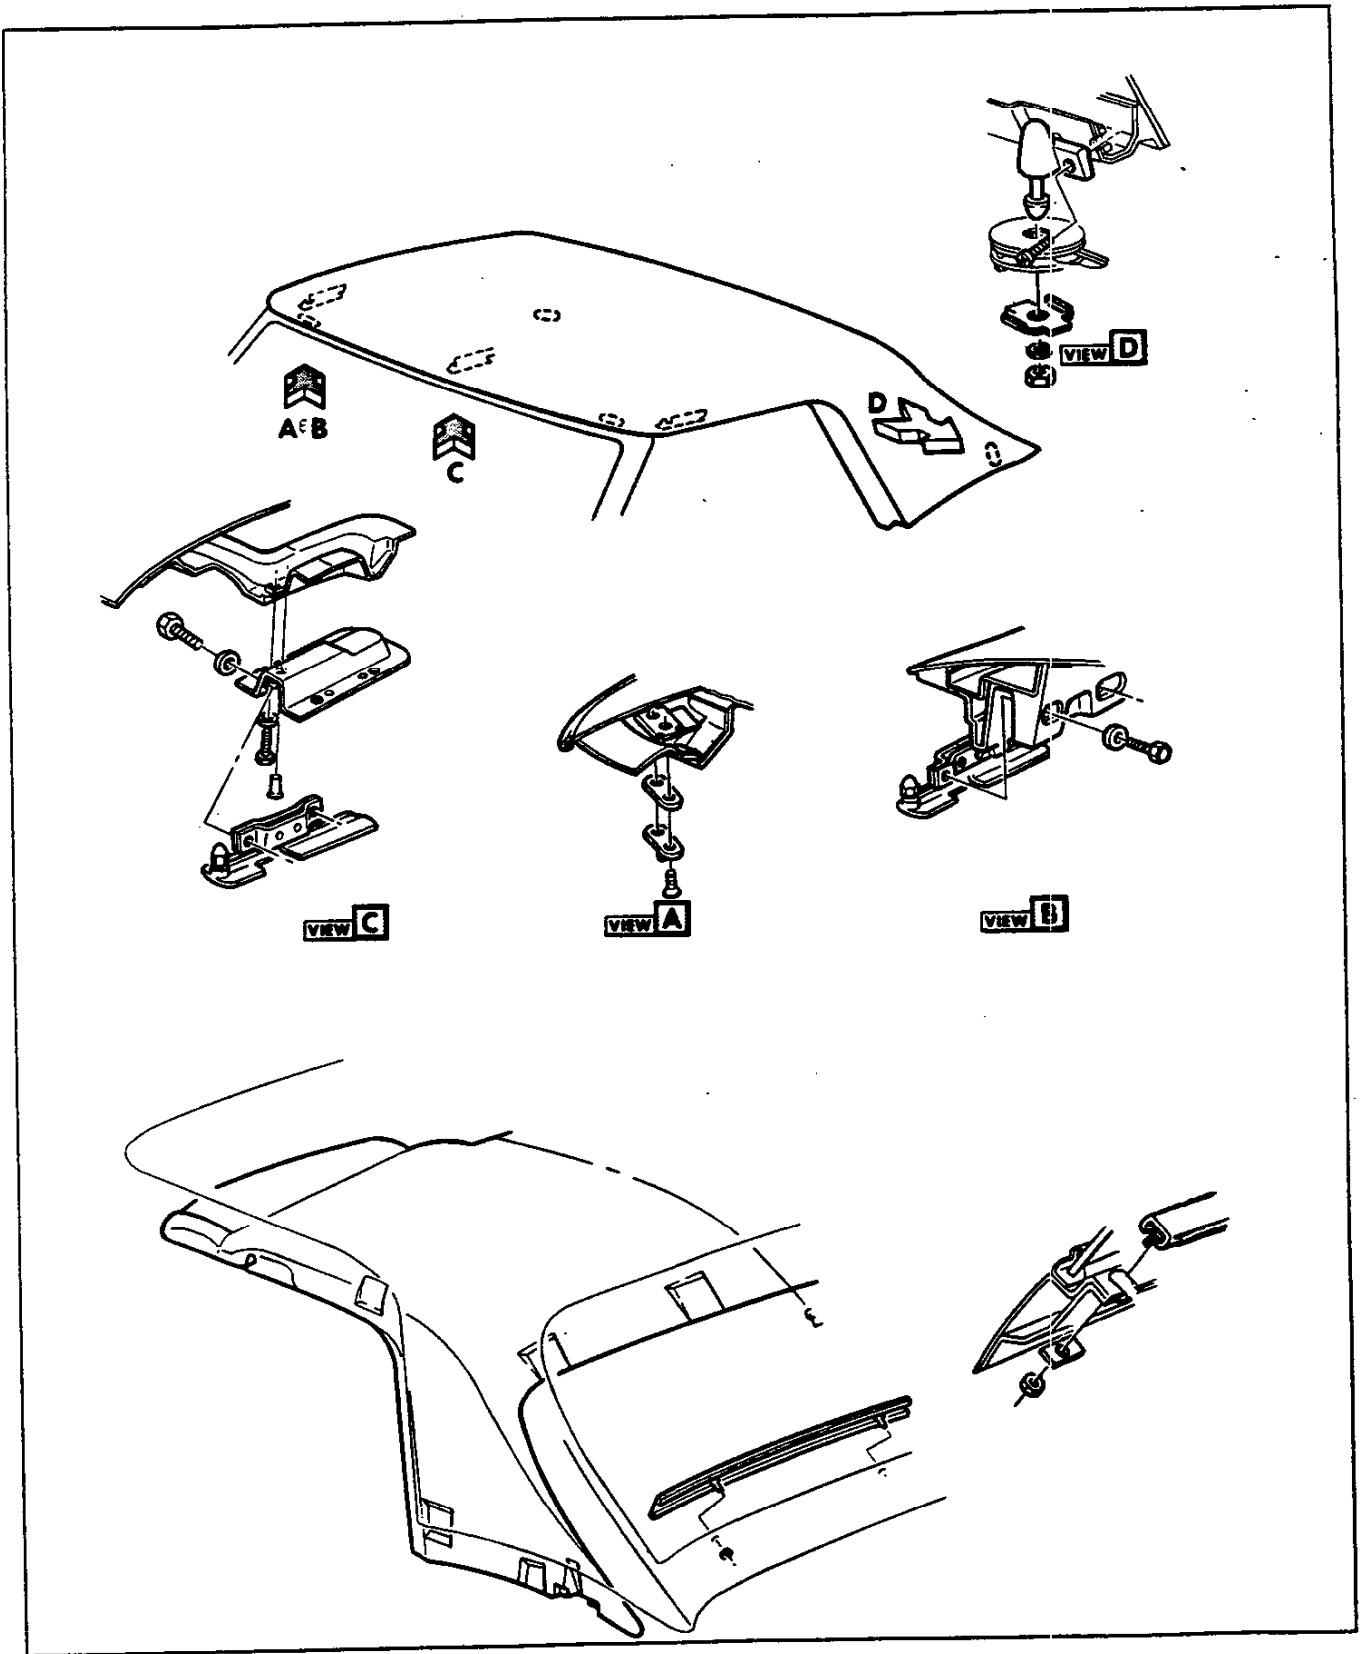

Fig. 61—Top Attachments and Hoodlining (Convertible Hardtop)
Figure 61 illustrates location and installation of guides and lock mechanisms. With headlining removed as outlined in this section, to adjust left and right hand locks fore and aft, mark original position, loosen two (2) mounting bolts, and move in desired direction. Make certain that lock is engaged in serrations before tighten ing mounting screws.